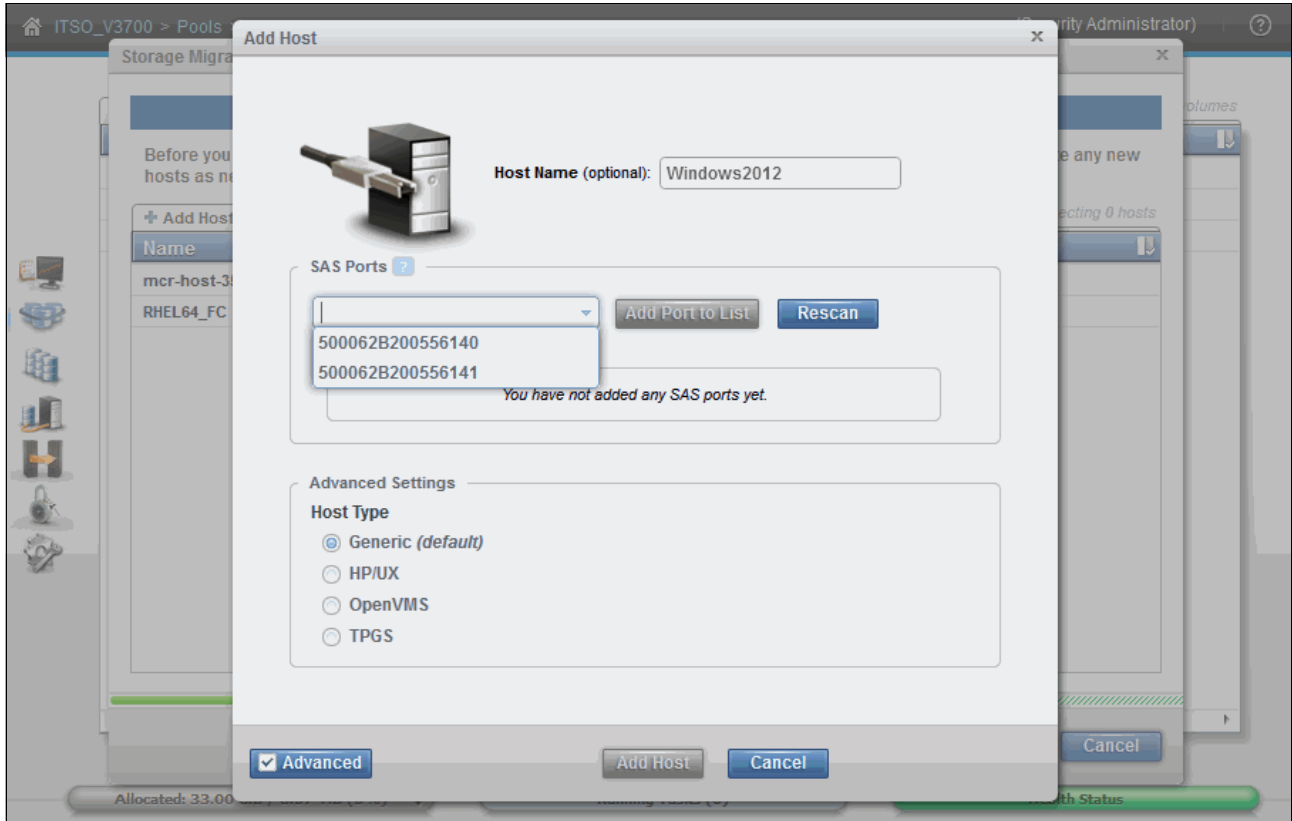

Figure 6-47 Naming host, selecting ports, and setting advanced options
3. Select your connection type, and the wizard moves to the next pane. Here, you can name the host, assign ports (in this case, SAS WWPNs) from the drop-down selection and, in the advanced settings, assign a host type, as shown in Figure 6-47.